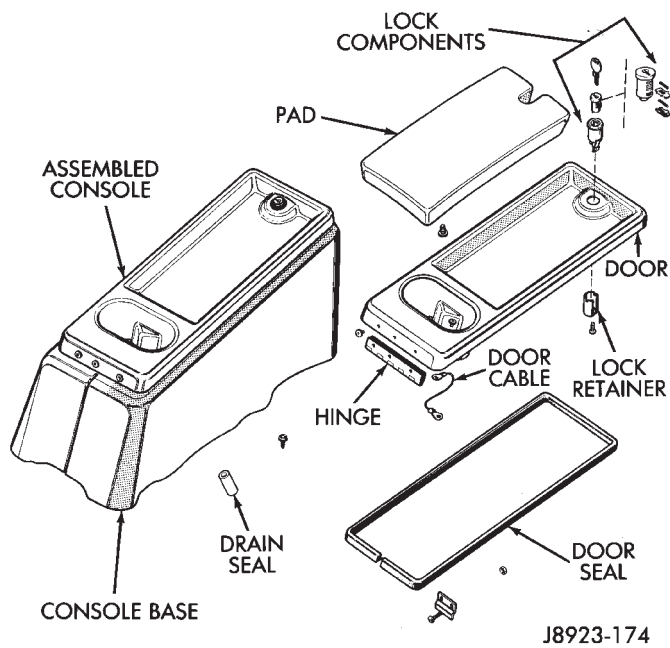

Fig. 28 Console Cover and Seal
Console cover replacement involves removing the hinge screws from the console, and components (Fig. 28). The seal can be replaced with the cover in the open position.
(5) Insert the key and cylinder into the lock and turn clockwise. Release the lock latch and remove the key.
(6) Insert the assembled lock in the console cover hole (Fig. 28) and install the retainer with the attaching screw.